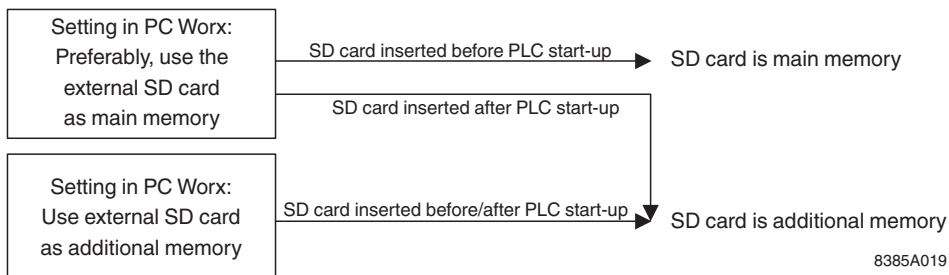

Figure 6-33 Procedure for using the SD card as the main or additional memory
Figure 6-33 shows how to proceed to use the SD card as the main or additional memory.
- If the SD card is already inserted before starting up the controller (see also Figure 6-33 on page 72), the SD card is used as the main memory. All application-specific data is stored on the SD card.
- If the SD card is inserted after starting up the controller (see also Figure 6-33 on page 72), the SD card is used as the additional memory (see Section 6.8.2). All application-specific data is stored on the internal parameterization memory of the controller.
The SD card is used as additional memory (see also Figure 6-33 on page 72) if: